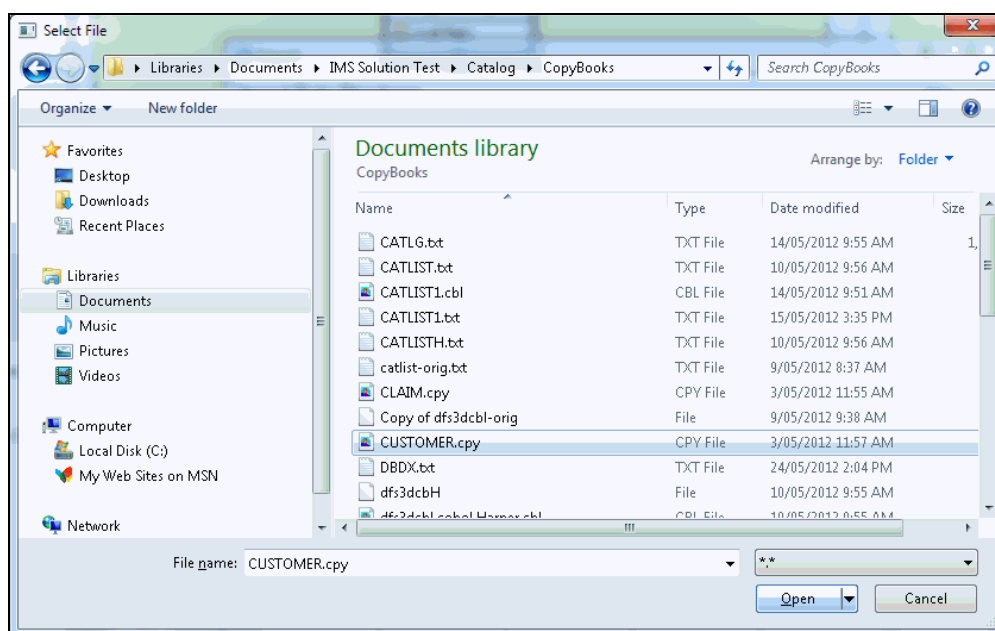

Figure 8-32 Select the file that contains the copybook or include member
2. Select the file that contains the COBOL or PL/I definition for the custroot (client) segment, and click **Open**, as shown in Figure 8-32.
Figure 8-33 shows the window that displays when you select **Open** (see Figure 8-32 on page 323). Figure 8-33 shows the Import Data Structures window. This window is where you identify the data structure to be imported for a database segment.